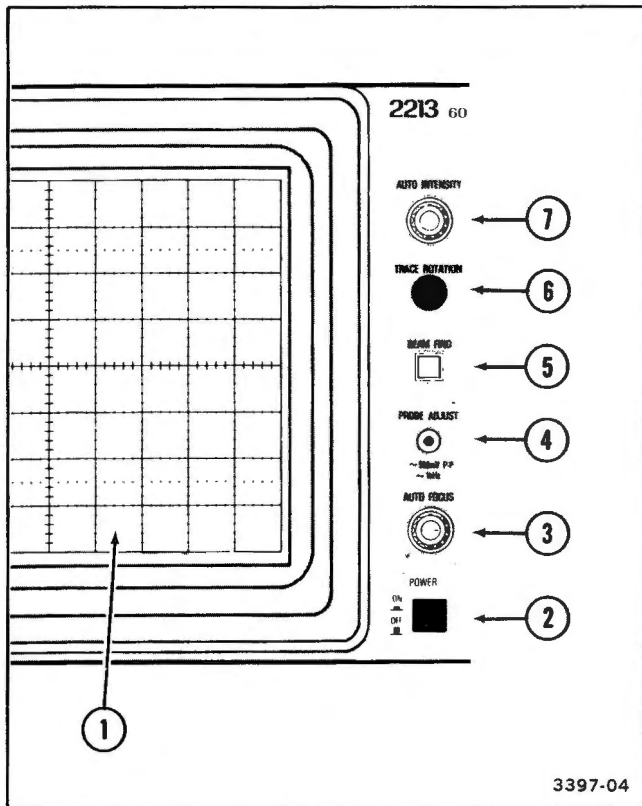

Figure 2-3. Power, display, and probe adjust controls, connector, and indicator.
Refer to Figure 2-3 for location of items 1 through 7.
- ① **Internal Graticule**—Eliminates parallax viewing error between the trace and graticule lines. Rise-time amplitude and measurement points are indicated at the left edge of the graticule.
- ② **POWER Switch**—Turns instrument power on and off. Press in for ON; press again for OFF.
- ③ **AUTO FOCUS Control**—Adjusts display for optimum definition. Once set, the focus of the crt display will